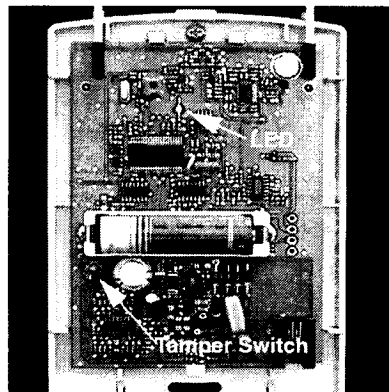

Figure 2. Tamper Switch and LED Locations
The DTIM uses a 3-2-1 tamper switch activation sequence for learning, which causes the LED to blink in a corresponding 3-2-1 sequence. You must wait for the LED to turn off after each flash sequence before releasing the tamper switch (see Figure 2).
4. Locate the DTIM tamper switch and LED (see Figure 2).